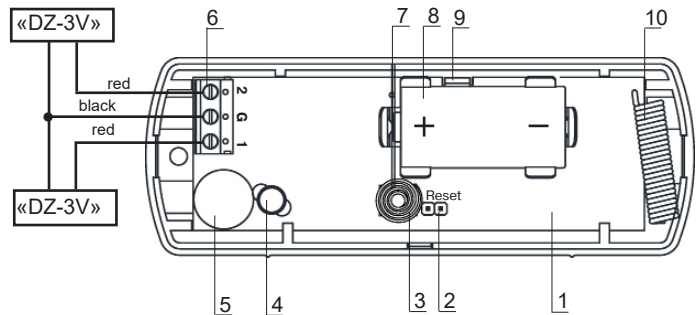

Figure 1 – The Base with the PCB
The appearance of the SPM is shown in Figure 1.
Install the printed circuit board and connect the DC to the terminal blocks (6) according to Figure 1. Close the cover of the SPM.